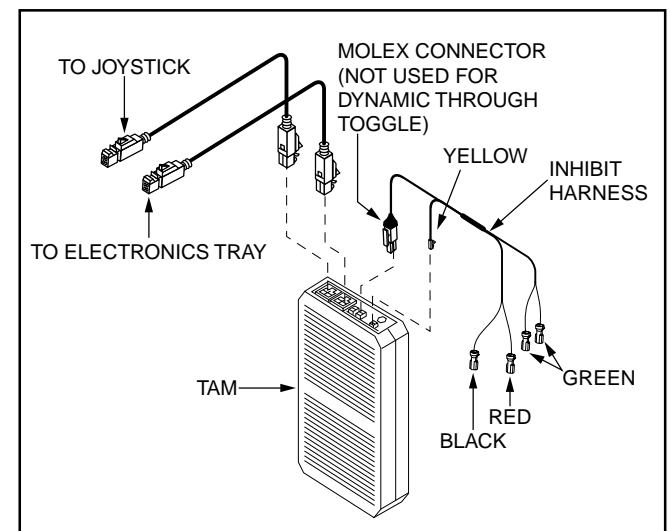

Figure 4.67. TAM with Harnesses
2. Disconnect the small AMP plug with yellow wires from the TAM. See figure 4.67. Using a multimeter set to measure resistance, insert the multimeter leads into the AMP plug. Operate the tilt until the seat is in the fully down position. Verify that less than one ohm is indicated on the multimeter.